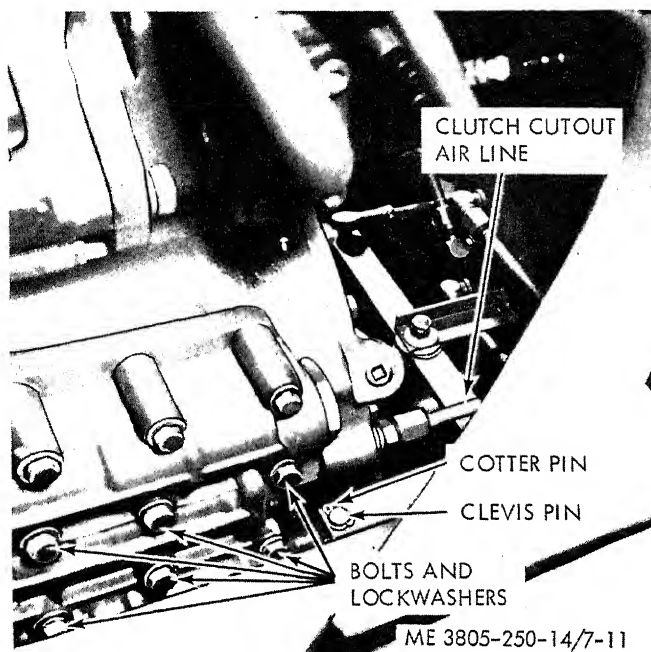

Figure 7-11. Transmission control valve, removal and installation.
(1) Disconnect the clutch cutout air line at the valve. Refer to figure 7-11.
(1) Install new retainer plug (26) and ball (27) if old parts were removed. Place the plug, open end up, over the ball and press it into the valve body flush to 0.010 inch below the surface of the bosses.
(2) Install spring (25) and detent ball (24) in the valve body. Depress the ball and insert selector valve (23) through the seal bore.
(3) Install remaining detent ball (20), and spring (19). Install new gasket (18) and plug (17) to retain the spring and ball. Tighten the plug firmly.
(4) Position the selector valve (23) in the middle detent position, and install valve stop (21) at the back of the valve body.
(5) Coat the circumference of a new seal (22) with nonhardening sealer, and insert it lip first into the valve body. The seal must be flush to 0.030 inch below the valve body surface.
(6) Install the main pressure regulator valve (3) a new gasket (2) and plug (1) in the valve body. Tighten the plug firmly. Install plug (10), new gasket (29), and plug (28), tightening the plugs firmly to prevent leakage.
(7) Install plug (10) if removed.
(8) Install spring seat (9) on cove side first on the main pressure regulator valve stem (3). Install the main pressure regulator spring (8), trimmer spring (7) and trimmer plug (6) into the valve bore. Install a new gasket (5) and plug (4). Tighten the plug firmly.
(9) Assemble cut-out valve spring (16) onto the clutch cut-out valve (15) and install them in the valve bore. Install seal ring (14) on cut-out plug (13), and install the plug in the smooth bore end of the retainer plug (11). Install a new gasket (12), and install the retainer plug assembly, tightening the plug firmly. Cover the exposed opening in the plug until the air line is connected to it.
*e. Installation.* Refer to figure 7-11.
(1) Install a new valve to transmission gasket, using oil soluble grease to retain it on the transmission.
(2) Position the valve on the transmission and secure it with fifteen  $\frac{3}{8}$ -16 NC x  $2\frac{1}{2}$  inch bolts, one  $\frac{3}{8}$ -16 NC x 1 inch bolt, and sixteen  $\frac{3}{8}$  inch lockwashers. Evenly tighten the bolts to  $29 \pm 3$  pound-feet, starting at the center of the valve and working outward.
(3) Connect the shift linkage and insert clevis pin and its cotter pin.
(4) Connect the air line to the clutch cut-out retainer plug.